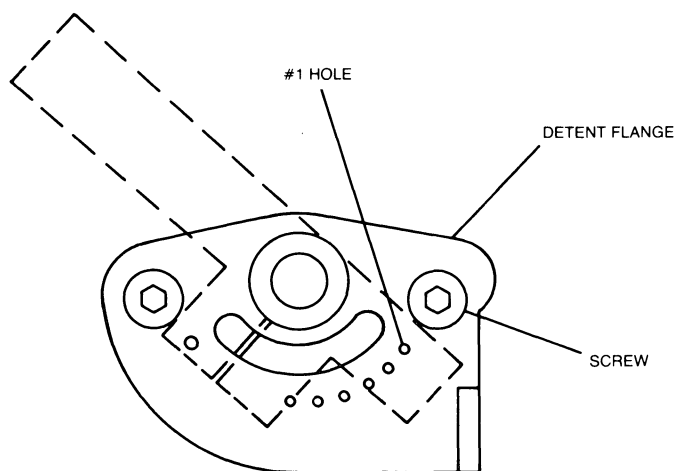

Figure 5.44 Positioning the Platen Adjust Lever
5. While holding the platen still, loosen the clamp of the platen adjust lever (see figure 5.44).